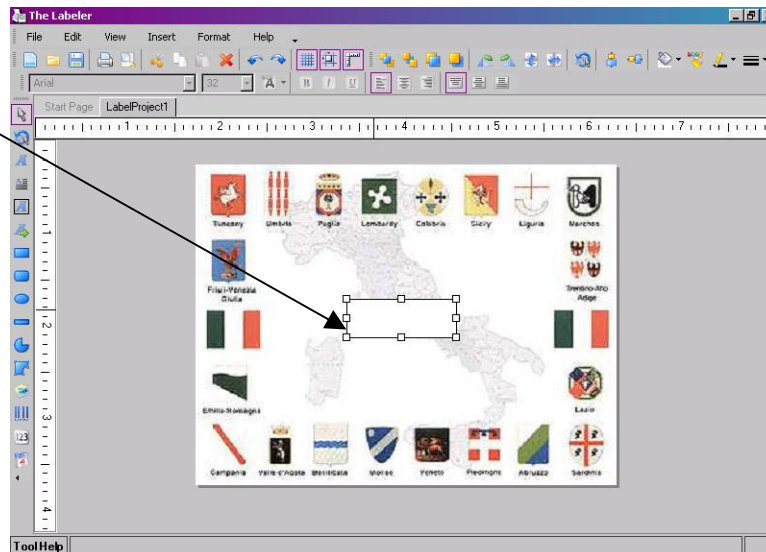

Figure 4.2.2.2: Cursor over one of the white boxes
3. Press and hold the left mouse button, this will make it so the lines of the shape become dotted (see Figure 4.2.2.3).